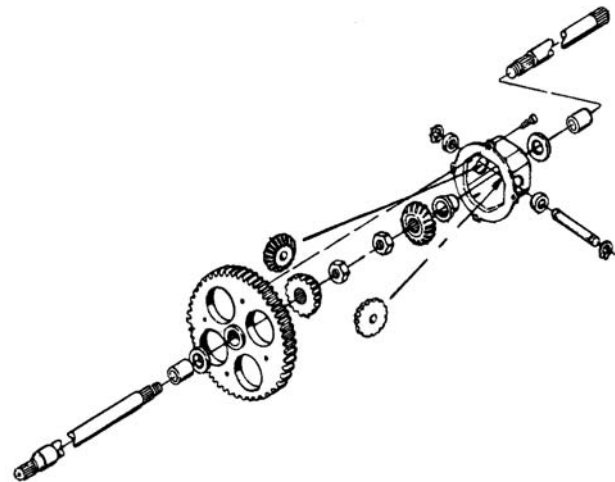

Figure 5-17. Differential
21. Disassemble the differential by removing four bolts located at differential housing and gear. Inspect the miter gears for damage. If they need replacing, remove the snap ring on the cross shaft and slide the cross shaft and two miter gears out. See Figure 5-17.